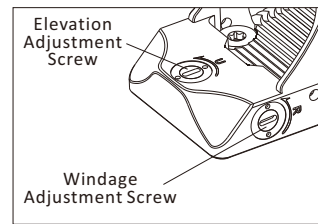

Fig 7
2) The Elevation adjustment is located on top of the tail section of the housing and the Windage adjustment is located on the right side of the housing. Adjustment can be performed by inserting the flat-tipped end of the included tool into the turret slot and rotating, See Fig 7.